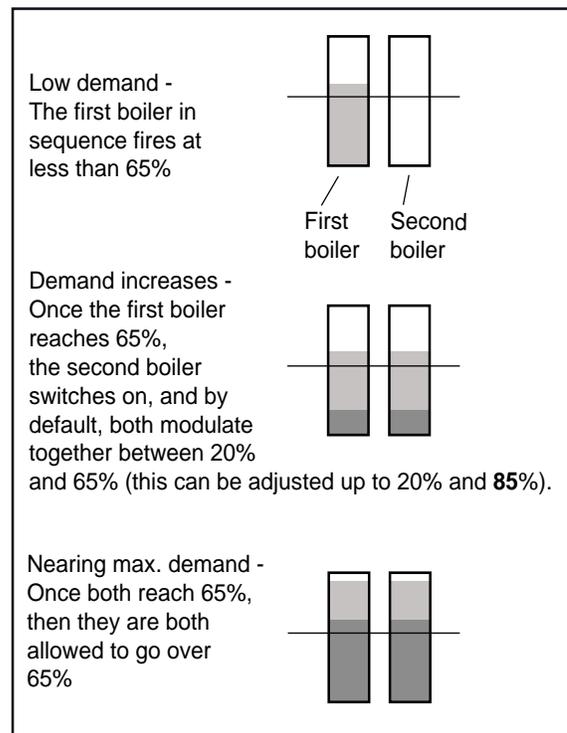

Figure 39. Lead Lag Operation, 2 boilers.
- If the heating demand increases so that the firing rate of that first boiler rises to your boiler configurations Base Load Value (**see Figure 39 or Figure 41**), the next boiler in the sequence will start up and begin firing at 20 to 35% fan speed (depending on your configuration). After this, the entire configuration of boilers will modulate up or down together, in reaction to the changes in demand.